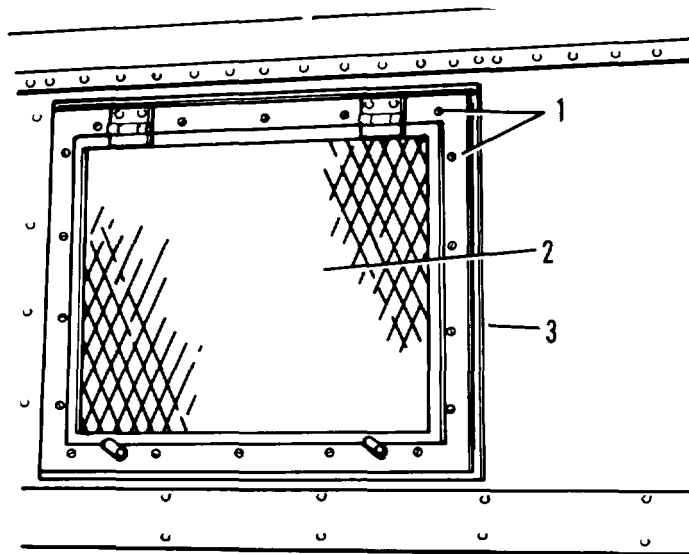

Figure 4-48. Window - outside view
- (1) Remove 18 screws (1, figure 4-48) from around outside of sash.
- (2) Pry off window (2) and gasket (3) from outside of the van.
- (1) Thoroughly clean the window (2, figure 4-48) and window area of the van with cleaning solvent (PD-680).